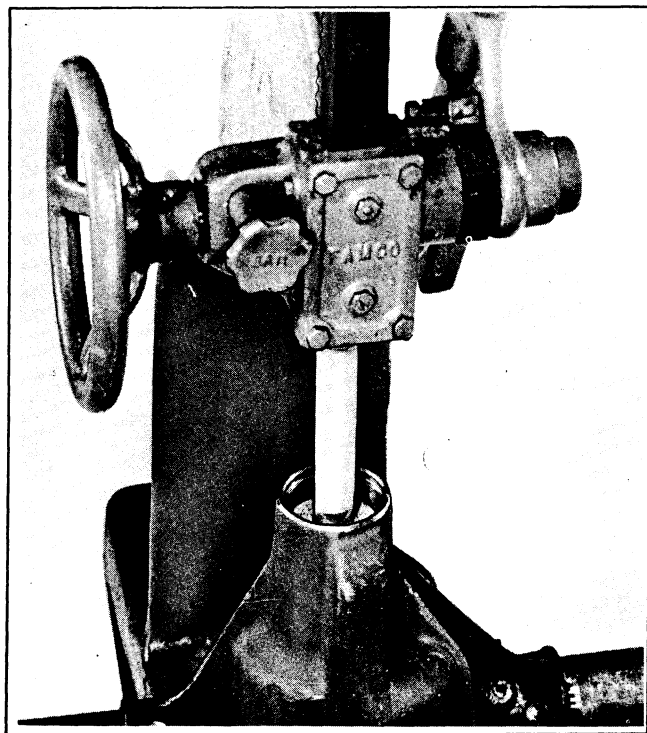

Figure 2-17. Installing Front Bearing Cup
13. Press drive pinion rear bearing cup (32) and shim pack (33) in carrier, using tool similar to one shown in Figure 2-17.
14. Press front bearing cup (31) in carrier with press tool similar to one shown in Figure 2-17. Install drive pinion shaft.
15. Press drive pinion shaft front bearing cone (30) on shaft (22) in carrier (support pinion gear end). Lubricate bearings with differential lubricant. Rotate drive pinion.